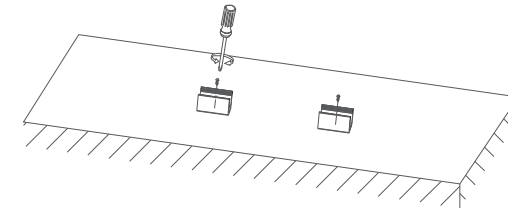

Figure 1
1. Fixed the clip in the place where the neon flex installed, as shown in Figure 1